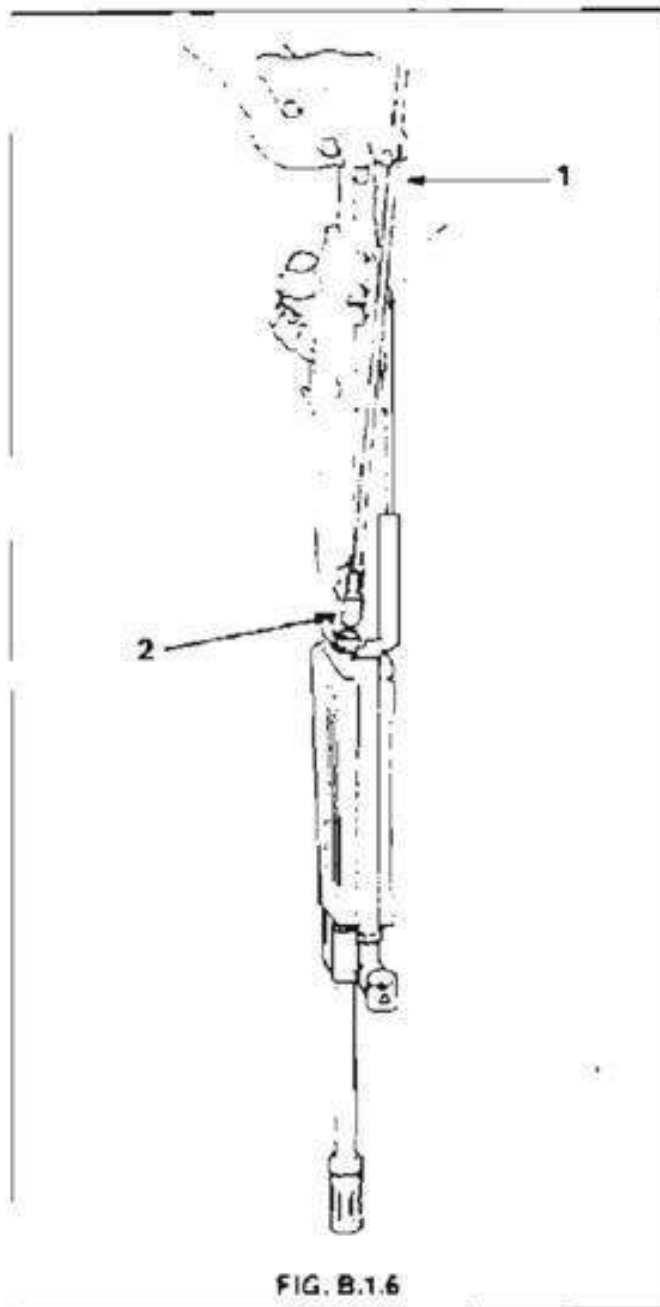

FIG. B.1.6
8. A barrel is serviceable if the bore gauge $\text{Ø} 5.573 \text{ mm}$ passes freely through barrel bore (gauge assembled to handle), when inserted from chamber end, with barrel held vertical. See Fig. B.1.6.